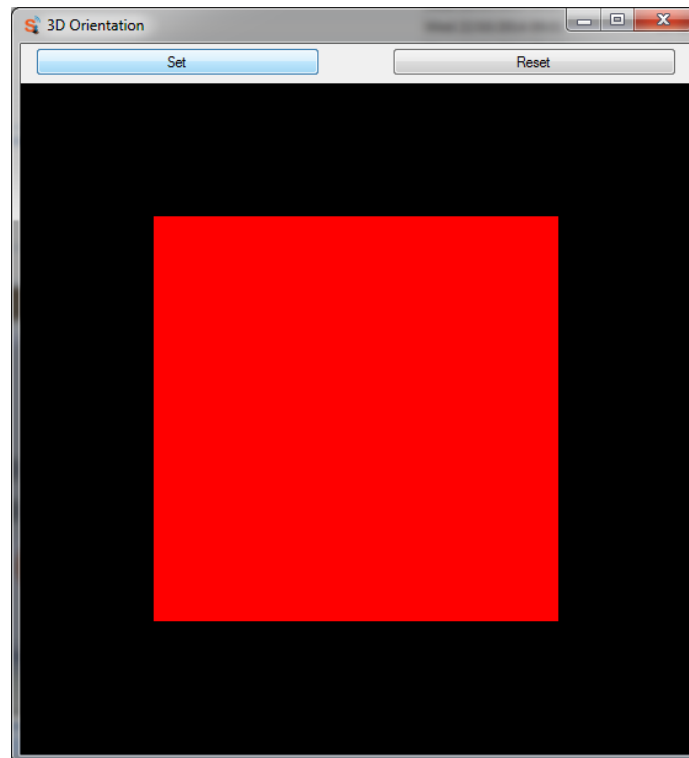

Figure 2-19 Representation of the 'front' face of the Shimmer Device.
3. Position the Shimmer device such that the y-axis of the device is pointing vertically upwards and the Shimmer sticker on the device is facing away from the screen, as demonstrated in Figure 2-19.
4. Press the "Set" button on the *3D Orientation* window to align the graphic with the Shimmer device. Once pressed, you should now see the red face of the cube, as shown in Figure 2-19. The red face represents the 'front' of the Shimmer.